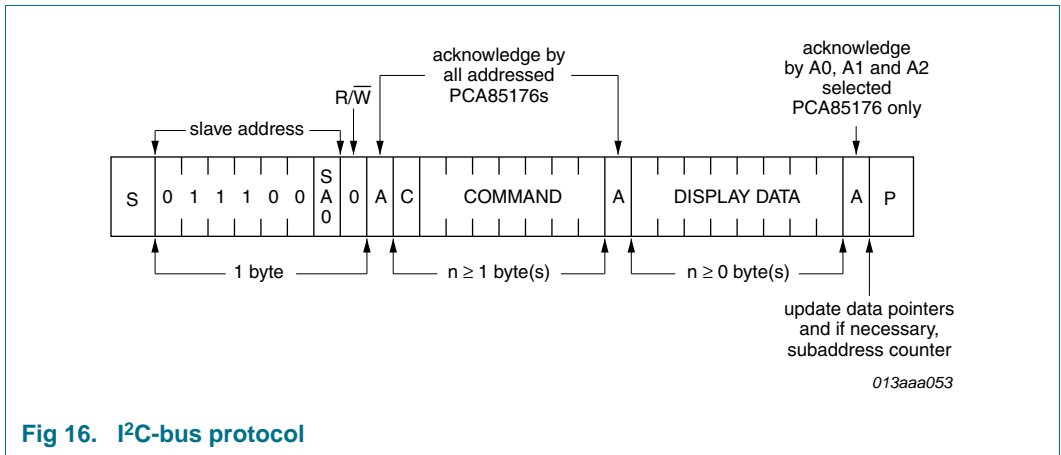

Fig 16. I2C-bus protocol
The I2C-bus protocol is shown in Figure 16. The sequence is initiated with a START condition (S) from the I2C-bus master which is followed by one of two possible PCF85176 slave addresses available. All PCF85176 whose SA0 inputs correspond to bit 0 of the slave address respond by asserting an acknowledge in parallel. This I2C-bus transfer is ignored by all PCF85176 whose SA0 inputs are set to the alternative level.